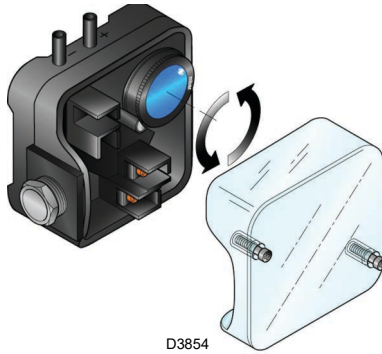

Fig. 38
- Adjust the air pressure switch to the start of the scale (Fig. 38 on page 32).
Adjust the air pressure switch after performing all other burner adjustments with the air pressure switch set to the start of the scale (Fig. 38).